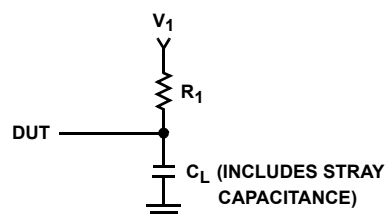

FIGURE 4.
- See Load Test Circuit, Figure 4,  $R_1 = 10k\Omega$ ,  $C_L = 50pF$ .